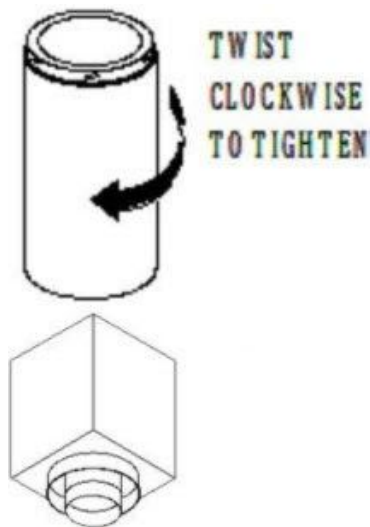

Fig. 8
7. **Assemble Chimney Sections:** Lower the female end of the first Chimney Section in the Support Box (Fig 8). It will twist-lock clockwise onto the male end of the Support Box. Turn Pipe Sections firmly clockwise to lock them together. Sheet metal screws are not required, but they may be used to reinforce the connection, if desired. Use only ½" (or shorter) sheet metal screws. Do not penetrate the inner liner of the chimney.